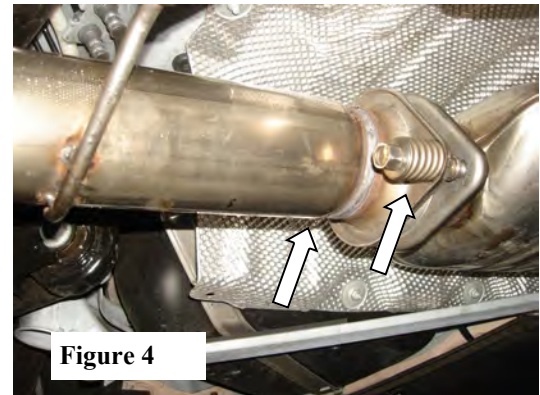

Figure 4
1. Install factory sealing gasket to new flange. Place Front Pipe Assembly into position. Using factory spring and supplied kit hardware. (See Fig. 4) Do not tighten hardware.